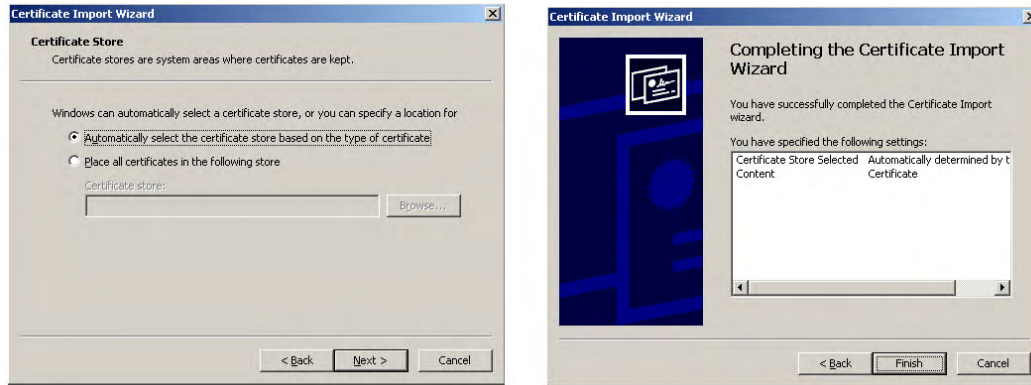

FIG. 80 Certificate Import Wizard- storing the certificate
9. Click **Next** to automatically use the default certificate store settings and locations (FIG. 80).